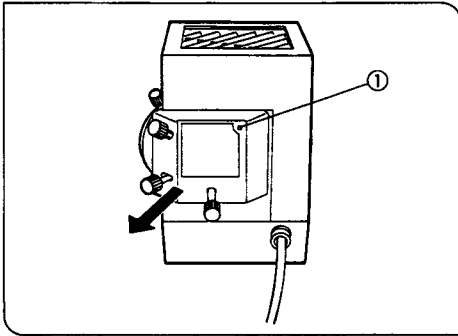

Fig. 9
## 7 Assembling the Lamp Housing for the Mercury Burner (Figs. 9,10,11,12)
1. Using the Allen screwdriver, remove the burner socket clamping screw ①.
2. Detach the socket (U-ULS100HG) from the lamp housing (U-ULH) by pulling in the direction indicated by the arrow. (Fig. 9)
4. Firmly tighten the socket clamping screw ① with the Allen screwdriver. (Fig. 9)
- ★ If the clamping screw ① is accidentally loosened while the burner is operating, the interlock switch turns off the burner. To restart the burner, first turn OFF the main switch on the power supply. Then disconnect the connecting cord plug from the output connector on the power supply unit and wait for about 10 minutes. Then, after firmly tightening the clamping screw ①, reconnect the connecting cord plug and turn ON the main switch again. (Fig. 9)